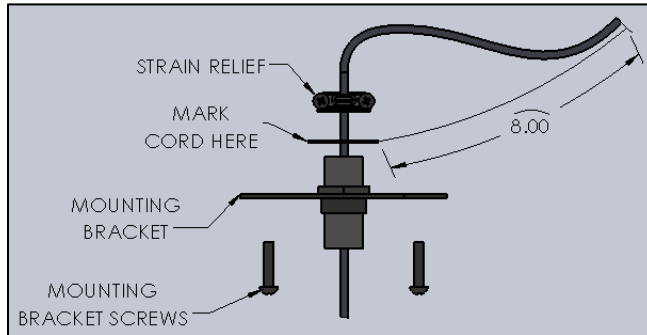

FIG. 26 – DETAIL B (SHOWING CORD TRIM INFORMATION)
3. Mark CORD with marker above the all-thread and Trim off excess cord leaving minimum of 8" past the Top of the all-thread as shown below in fig. 26.